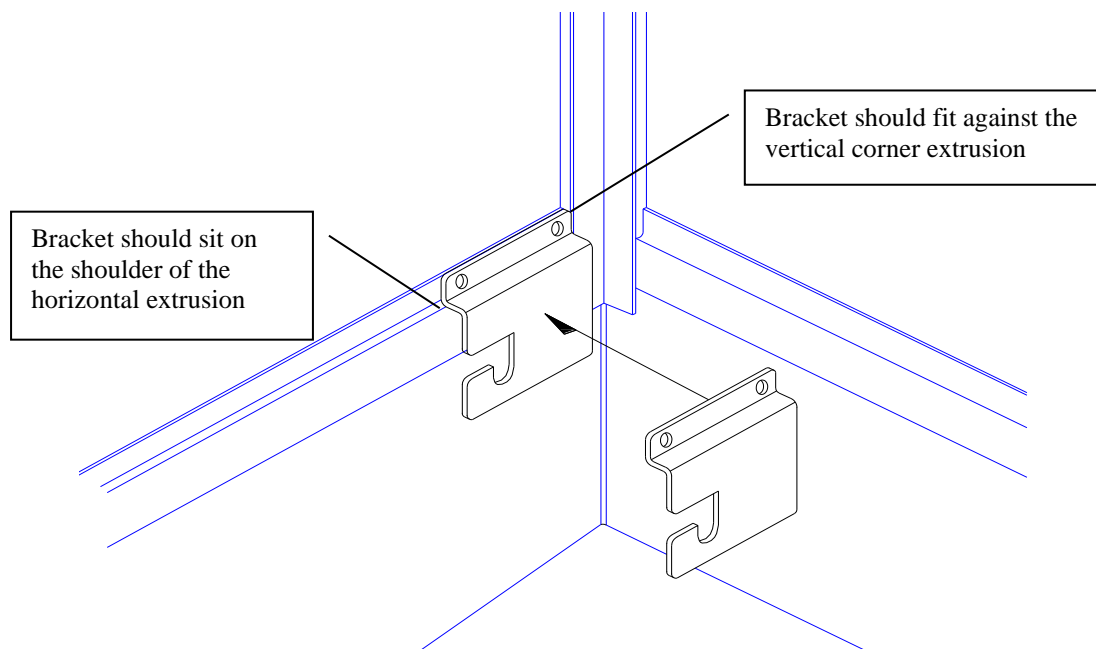

Figure 13.
1. Place a rest bench bracket on to the lower flange as shown in Figure 13. The flange should sit on the shoulder for the aluminum extrusion and be against the vertical extrusion. See Figure 13.